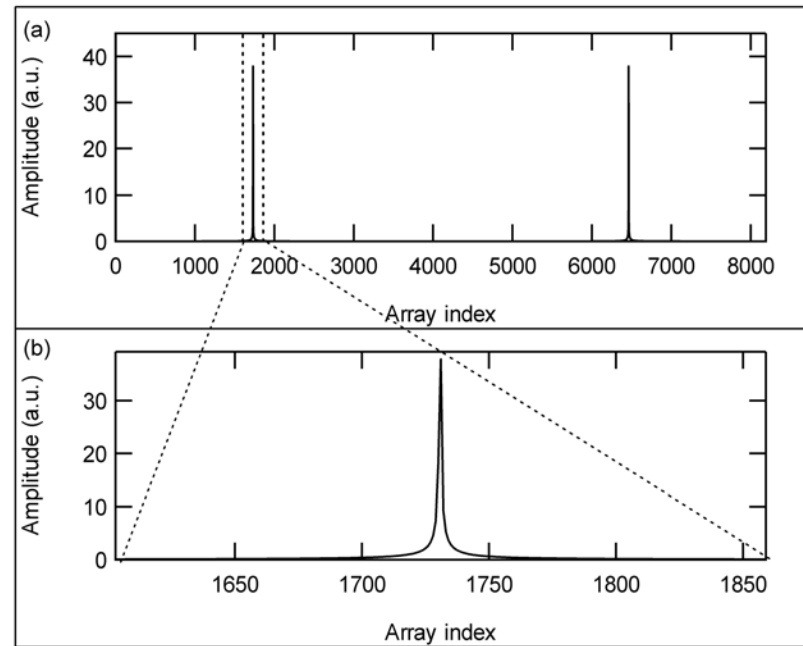

Figure 8-3. (a) The Fourier transform of interference fringes.
The Fourier transform of reflected optical intensity (I) for a short length of single-mode fiber as the DUT is plotted in Figure 8-3 (a). Figure 8-3 (b) shows the selected